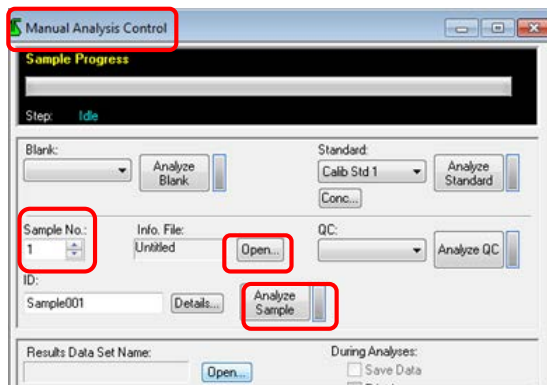

Fig. 24
3.3.6 Analyze samples. Click on **open** behind **info.file** to load sample info file if needed. Place the sample tube in corresponding sample. Select sample No and then click on Analyze sample. (fig.24)